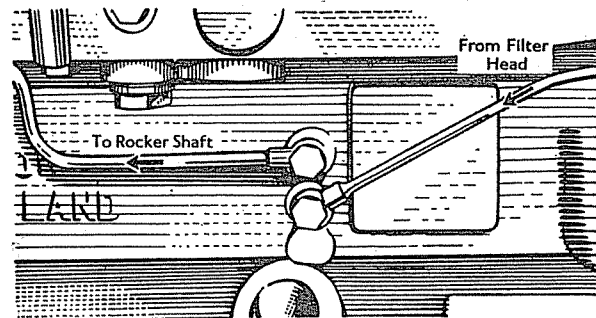

Fig. 43.
- (8) The other pipe carries oil to the lower of the two drillings in the camshaft tunnel on the centre line of No. 2 camshaft bearing, See Figure 43.
- (9) As the camshaft revolves, oil is picked up and carried around the narrow slots machined on No. 2 camshaft journal until it escapes through the upper drilling in the camshaft tunnel. The oil then flows through the pipe to the cylinder head where a pipe conveys it to the hollow rocker shaft which feeds oil to the rocker shaft lever bushes, etc.
- (10) It will be appreciated that owing to the small capacity of the slot on the camshaft journal, only a reduced quantity of oil can pass to the